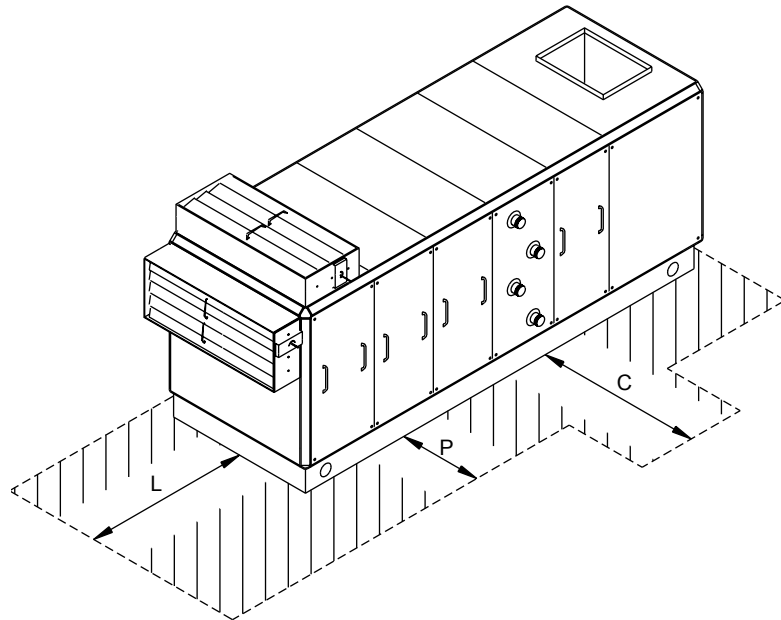

Figure 6
5. When the unit is positioned on site, there must be sufficient space around the unit to ensure that correct operation and effective maintenance can be carried out. Figure 6 gives recommended space allowances.